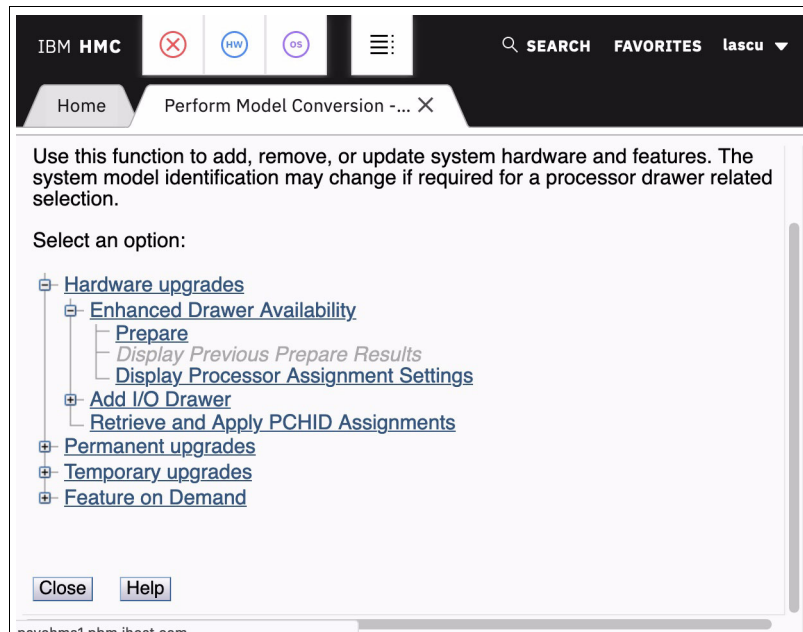

Figure 9-6 Clicking Prepare for Enhanced Drawer Availability option
For the EDA process, this phase is the preparation phase. It is started from the SE, directly or on the HMA, by using the Single object operation option on the Perform Model Conversion window from the CPC configuration task list, as shown in Figure 9-6.
The preparation step can be run without performing a drawer replacement. You can use it to dynamically adjust the operational configuration for drawer repair or replacement before IBM SSR activity. The Perform Model Conversion window in you click **Prepare for Enhanced Drawer Availability** is shown in Figure 9-6 on page 419.
5. Repeat the step that is shown in Figure 9-6 on page 419 to ensure that the required conditions are all satisfied.